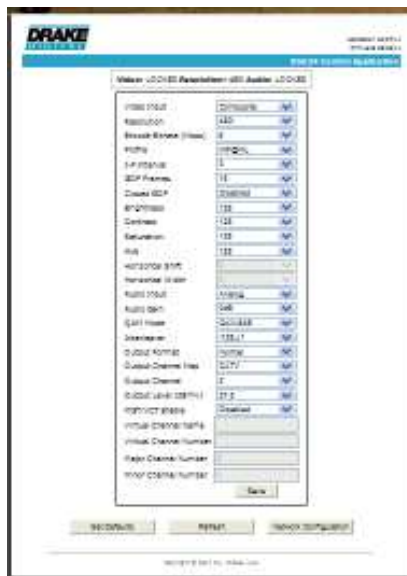

FIGURE 2
- 6) You will then be presented with the main control screen similar to the one in Figure 2. You will notice that all DSE24 parameters are listed along with the values that were previously selected for each parameter from the DSE24 front panel. At the top of the display you will note that the status of the audio and video along with the currently selected resolution are shown.